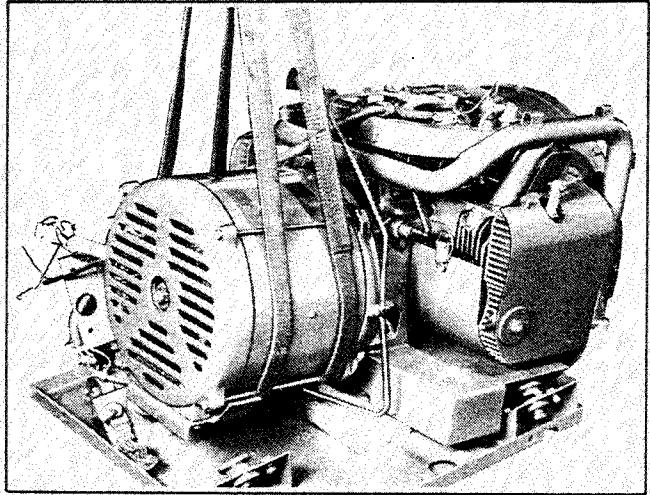

Figure 8-6. Hoisting Generator End
13. With lifting strap positioned around stator, use hoist to raise generator end. Place a wood block under generator adapter and lower generator until generator is supported by block. Figure 8-6.